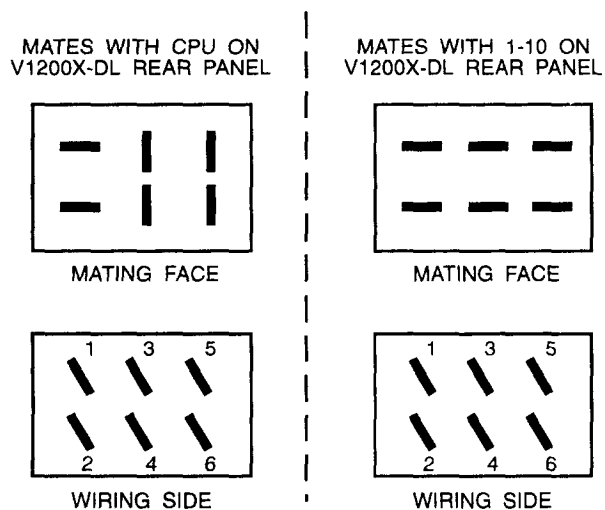

Figure 4
1. Select the connector from the accessory pack which mates with connector "CPU" on the V1200X-DL rear panel. Refer to Figure 4.
1. Select a connector from the accessory pack which will mate with connectors 1-10 on the first V1200X-DL rear panel. Refer to Figure 4.
4. Select the connector from the accessory pack which mates with connector "CPU" on the second V1200X-DL rear panel. Refer to Figure 4.
1. Select a connector from the accessory pack which mates with connectors 1-10 on the first V1200X-DL rear panel. Refer to Figure 4.